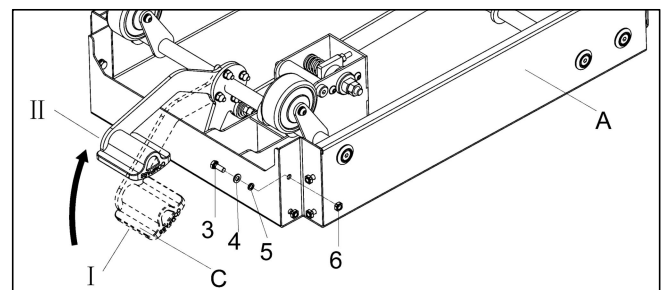

Fig.5
b. Pull the foot pedal (C) to change it from state (I) to state (II) as seen in **Fig.5**.
To install the legs (J), preinstall the fasteners (#3, #4, #5, and #6) into the sixteen holes of the base platform (A) as shown in **Fig.5**. Each corner will require 4 sets of fasteners (16 in total). Square nut (#6) will be exposed to accept the legs (J).